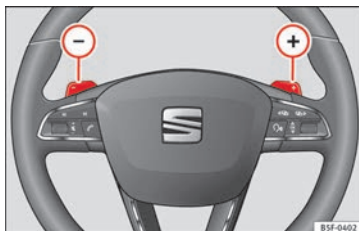

Fig. 145 Steering wheel: automatic gearbox levers
- Press the gearshift paddle (+) to select a higher gear » **Fig. 145**.